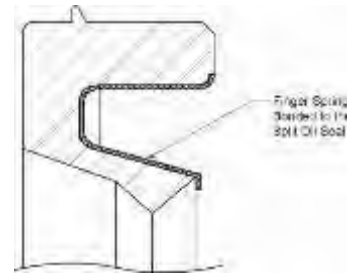

Figure 109
NOTICE: The split oil seal has a finger spring bonded to the seal in the inner groove of the seal lip (Figure 109). Use care not to kink or distort the finger spring when installing the split oil seal on the crankshaft.
- M. Install the Fuel Pump Shaft Drive Indicator Mount (ST-533) on the left crankcase locating dowel and adjacent tapped bolt hole (Figure 109).
- (1) Remove the shaft drive.
- (2) Turn the drive shaft 120°.
- (3) Re-install the shaft drive, screws, washers and torque to 100 in.-lb. (11 Nm).
- (4) Re-check the shaft drive run-out.